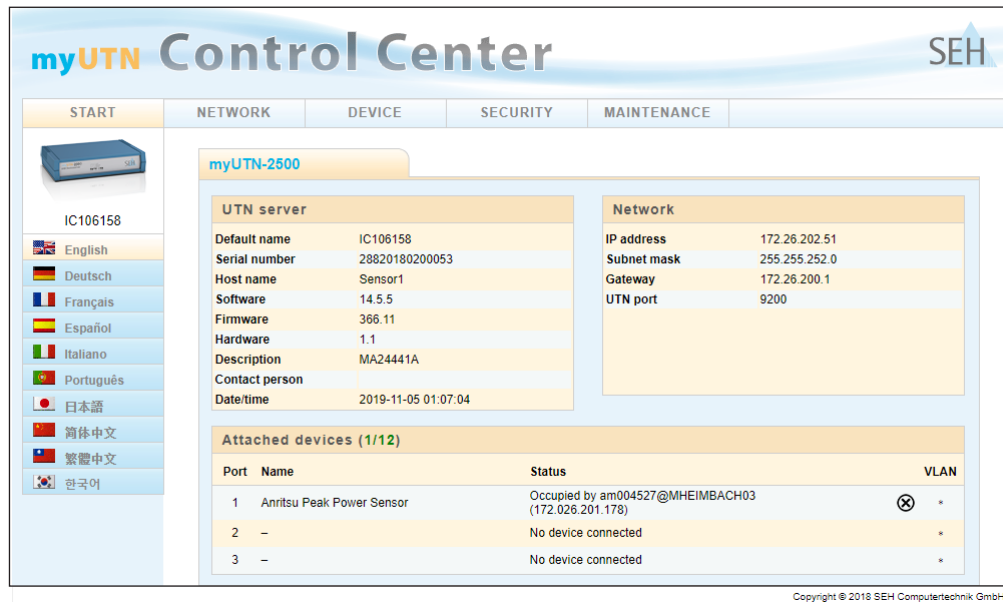

Figure 5. Control Center Interface
- Once the sensor is activated, use the SEH myUTN Control Center software to choose a host name for the device (called Sensor1 in this instance), as well as make other changes for security and maintenance (Figure 5). Note: Use of this software is only used to configure the shared device and not necessary for any remote control functionality of the power sensor.